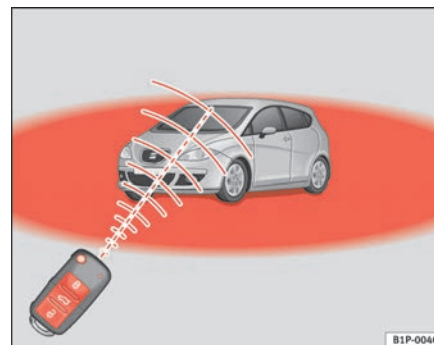

Fig. 64 Range of the remote control
- The remote control functions only when you are in range ⇒ page 100, fig. 64 (red area).